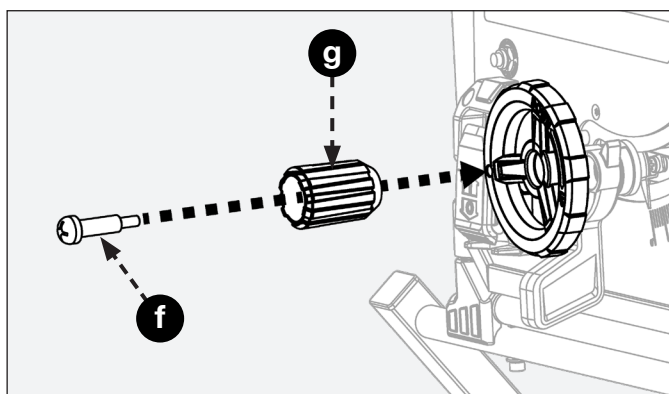

FIGURE 8
- Insert shoulder screw (f) into height adjustment knob (g) as shown in Fig. 8.